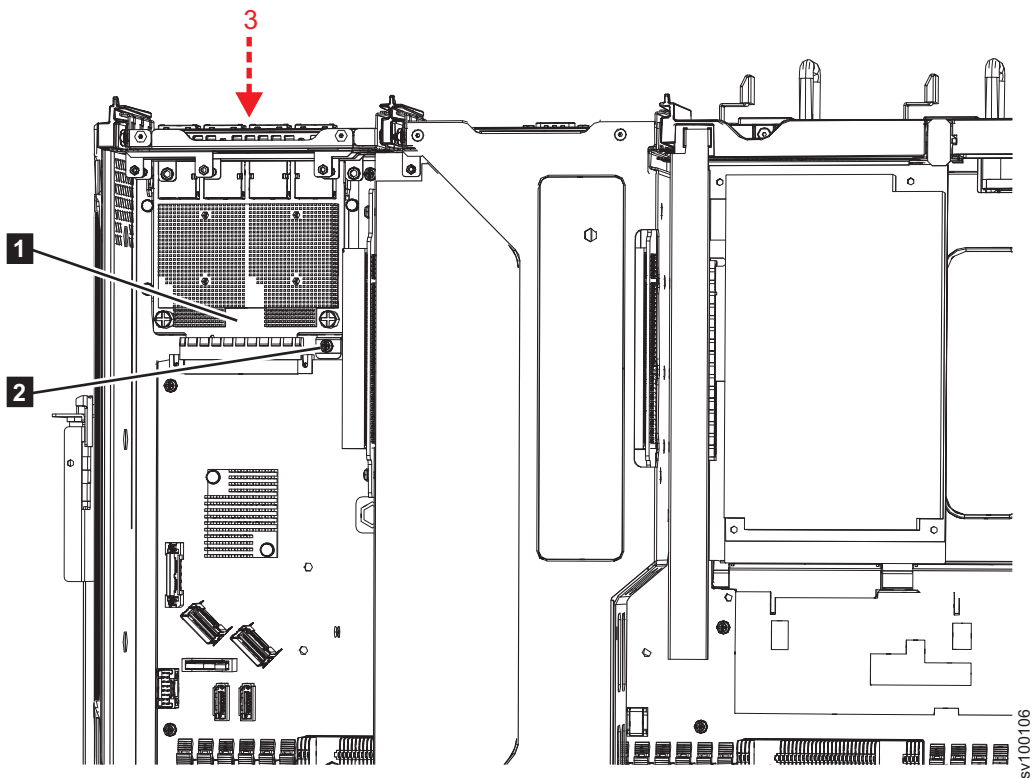

Figure 213. Replacing the 2145-SV1 Ethernet edge board
11. Insert the new Ethernet edge board through the port hole (**3**) at the back of the node, as shown in Figure 213 on page 263.